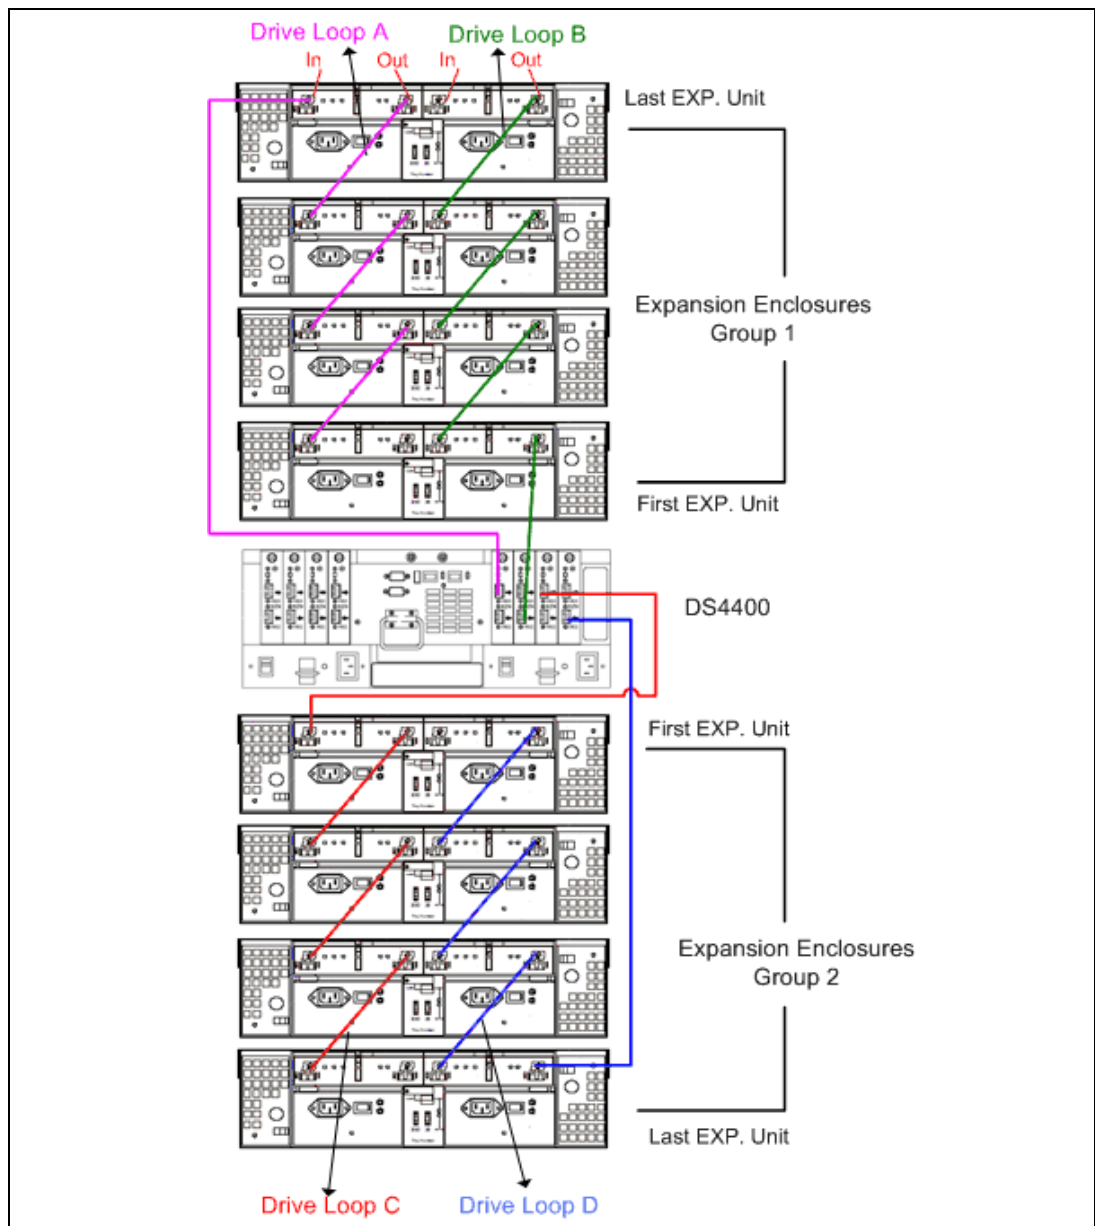

Figure 3-15 DS4000 drive-side Fibre Channel cabling
For the DS4400 drive-side Fibre Channel cabling, is shown in Figure 3-15.
3. If you are cabling a second group, repeat step 1 to step 3 and reverse the cabling order; connect from the Out ports on the ESM boards to the In ports on successive expansion units according to the illustration on the left. See Figure 3-15.
Best Practice: Figure 3-15 shows that there are two drive loop pairs (A/B, and C/D). The best practice is to distribute the storage (the EXP units) configuration among all of the available drive loop pairs for redundancy and better performance.
4. If you are cabling a second group, repeat step 1 to step 3 and reverse the cabling order; connect from the Out ports on the ESM boards to the In ports on successive expansion units according to the illustration on the left. See Figure 3-15.